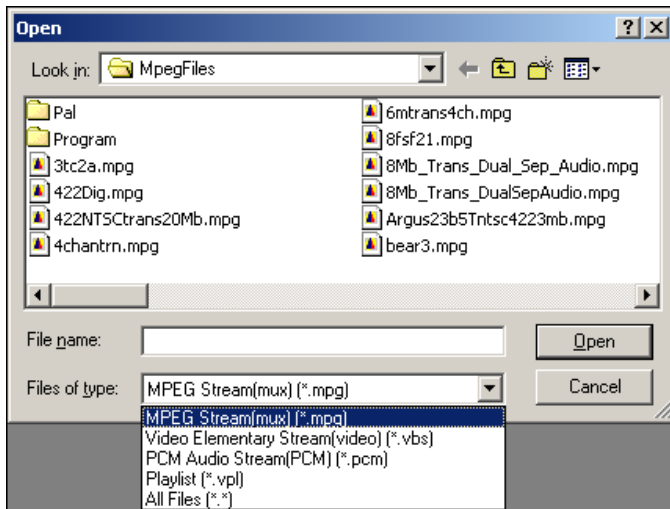

Figure 2-3. File Open Window with Supported Types
Open – Click to open a browser window for the selection of an MPEG file for playback. See Figure 2-3 for a sample window. To begin playback, click on a desired file name, then press the Play button. The application recognizes and will play back files with the following file extensions:
- Click **Open** to bring up a browser window (Figure 2-3), from which an MPEG file is selected for playback.